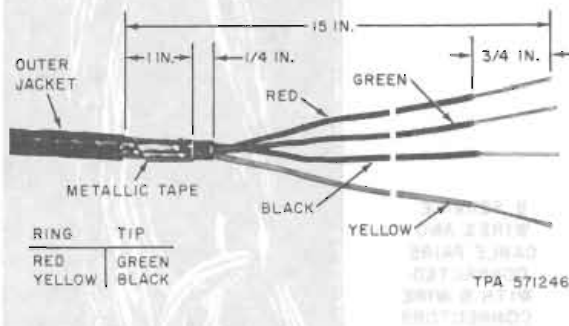

Fig. 66—Prepared Service Wire UP-200 Cable Closure
- (1) Remove all unnecessary slack from the service wire. Mark the outer jacket 1/4 inch below the AT-7796X connector. Prepare the service wire as illustrated in Fig. 66.